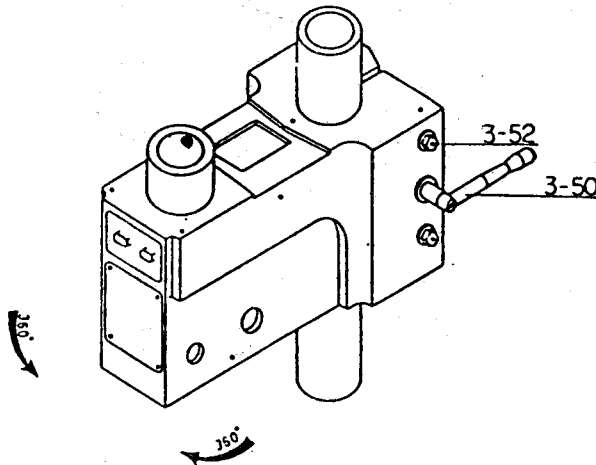

Fig. 2
(2) After Operation
(3) Adjustment of Head
- (a) To raise and lower the head, loosen the three bolts (3-52) shown in Fig. 2. Use the left side head handle (3-58) to raise and lower the head on its rack and pinion mechanism. When the desired height is reached, tighten the bolts to avoid vibration.